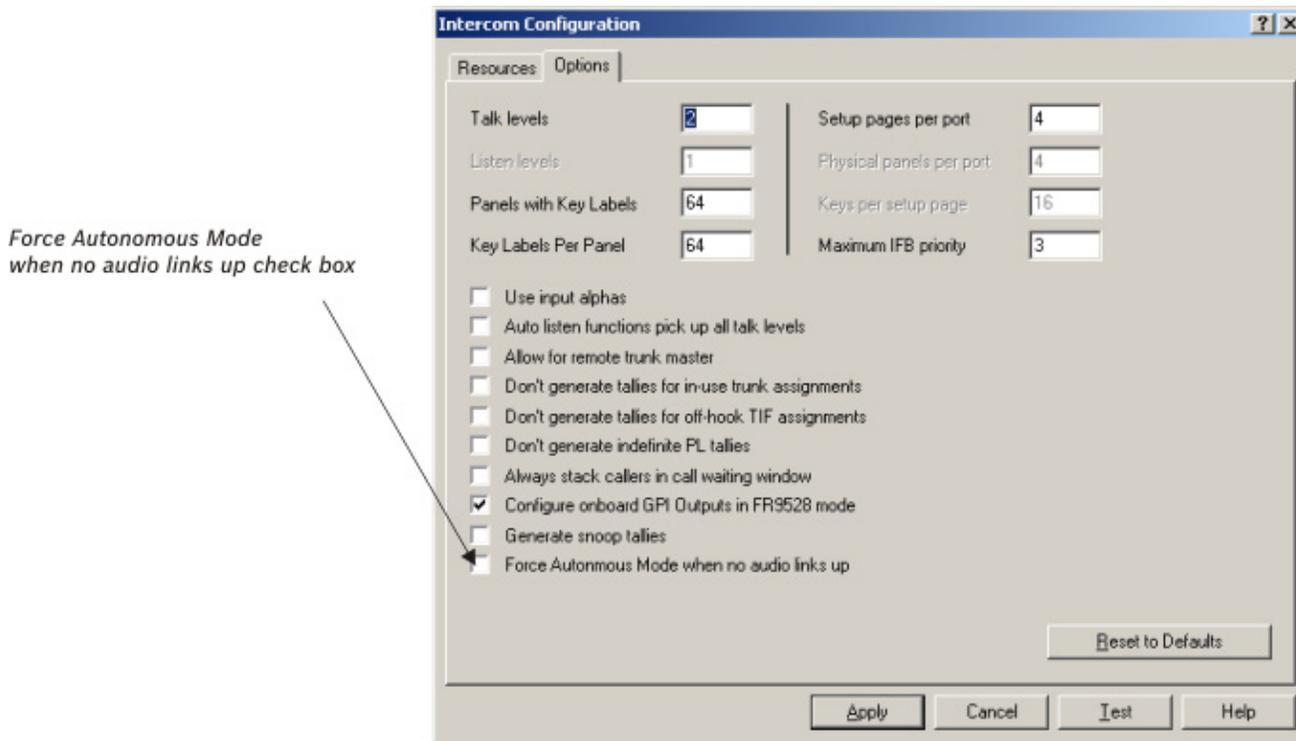

FIGURE 11. Force Autonomous Mode when no audio links up
The **Force Autonomous Mode** check box, shown in Figure 11, is used to force the current frame into autonomous (independent) mode, if none of its TBX-2 audio links are active. Normally, a frame communicates with other frames that are part of the same intercom. However, the Options page of the Intercom Configuration dialog has a new option, *Force Autonomous Mode when no audio links up*. If selected, the frame refuses to communicate with any other frames if none of its TBX-2 links are up, even if Ethernet communications are fine. And, once one (1) or more of its audio links are restored, the frame automatically tries to re-establish messaging links to the other frames in the cluster.